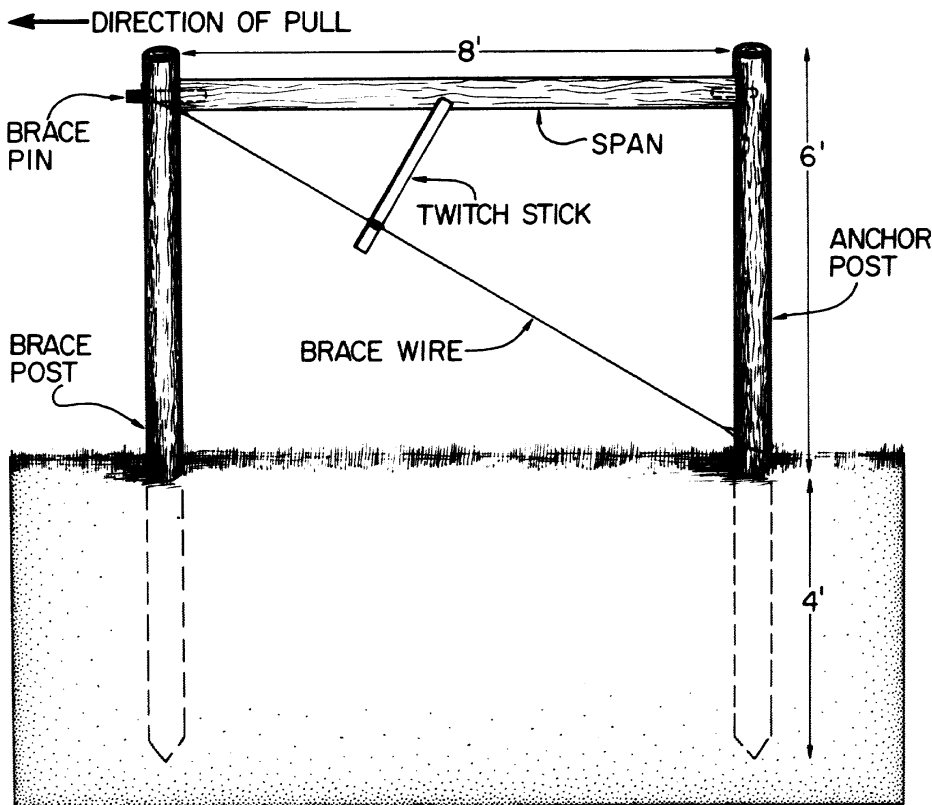

Figure 7.—Diagram of single-span strainer assembly.
Next, pin the span to the brace and anchor posts (Figure 7). Place the span between the anchor and brace posts at the top of these posts. Drill a  $\frac{3}{8}$ -inch hole through the top of the anchor and brace posts and 2 inches into each end of the span. Drive a 4-inch, galvanized,  $\frac{3}{8}$ -inch steel pin halfway into one end of the span. Lift this end of the span and place the protruding pin in the  $\frac{3}{8}$ -inch drilled hole in the anchor post.
Place the other end of the span so that the  $\frac{3}{8}$ -inch hole matches up with the  $\frac{3}{8}$ -inch hole at the top of the brace post. Drive a 10-inch long,  $\frac{3}{8}$ -inch pin through the brace post into the span, leaving 2 inches protruding (Figure 7).
*Double-span assemblies.* Construct these assemblies exactly like single-span assemblies. They merely add another brace post and span (Figure 7, page 6). Construct a single-span assembly, including brace wire and twitch stick, then place the second brace post (with no lean) in a hole on line with the brace and anchor post of the single-span assembly.